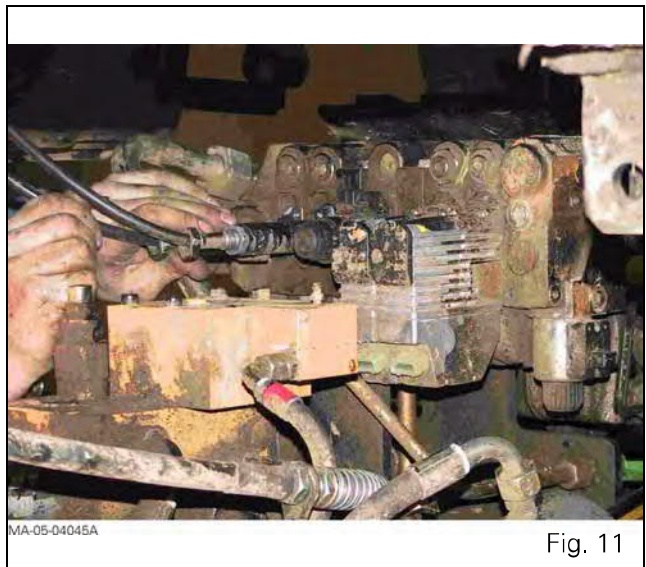

Fig. 11
- control cable of mechanical spool valves (Fig. 11).